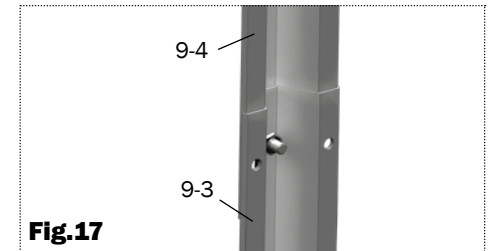
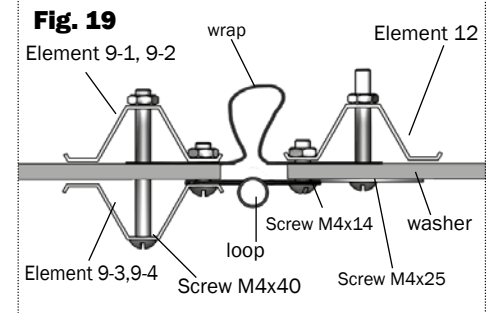
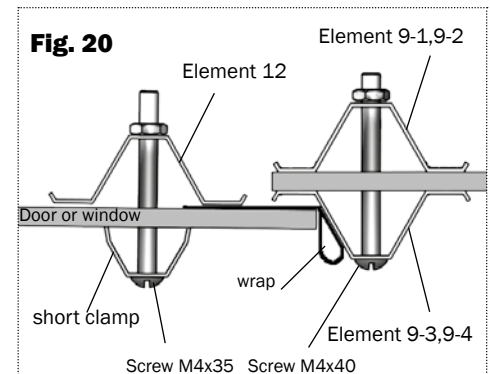
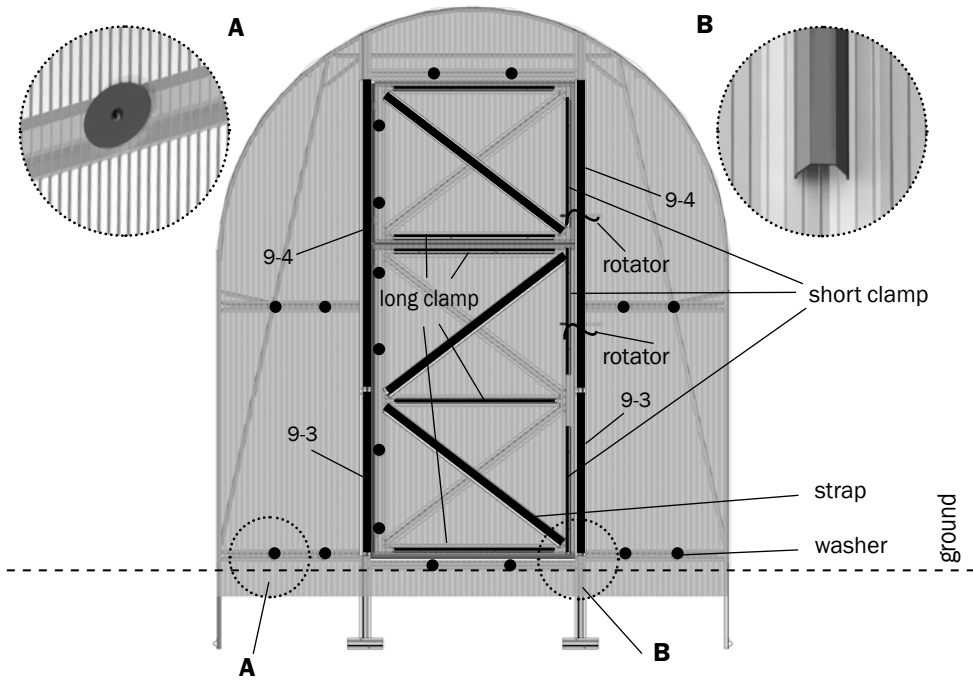

Fig.17
Fig. 19
Fig. 20
Fig. 21
- Match elements 9-3 and 9-4 (fig.17) and install them according to fig.19. press the pieces of polycarbonate at the edges from the doors and Windows lining 9-3, 9-4 (fig.19), leaving holes for rotator. Cut pieces of the coating to be installed above doorways, and under door openings, install it and fasten it with washers (fig.21) for detail 10.
- Secure the pieces of the coating on the Windows and doors on the side - the weight of the hinges with washers (fig.19), and about other parties - clamps (fig.20), having closed cell (paste over them with tape). On the sides opposite to the hinge cover should get over a frame of 15 mm (fig.20). Loops are superimposed on top of the polycarbonate and when tightening the screws under the hinge polycarbonate crushed.
- The cracks in the door opening closed with plastic wrap (fig.19, 20).
8. Washers and clamps on the end are set in accordance with fig.21.